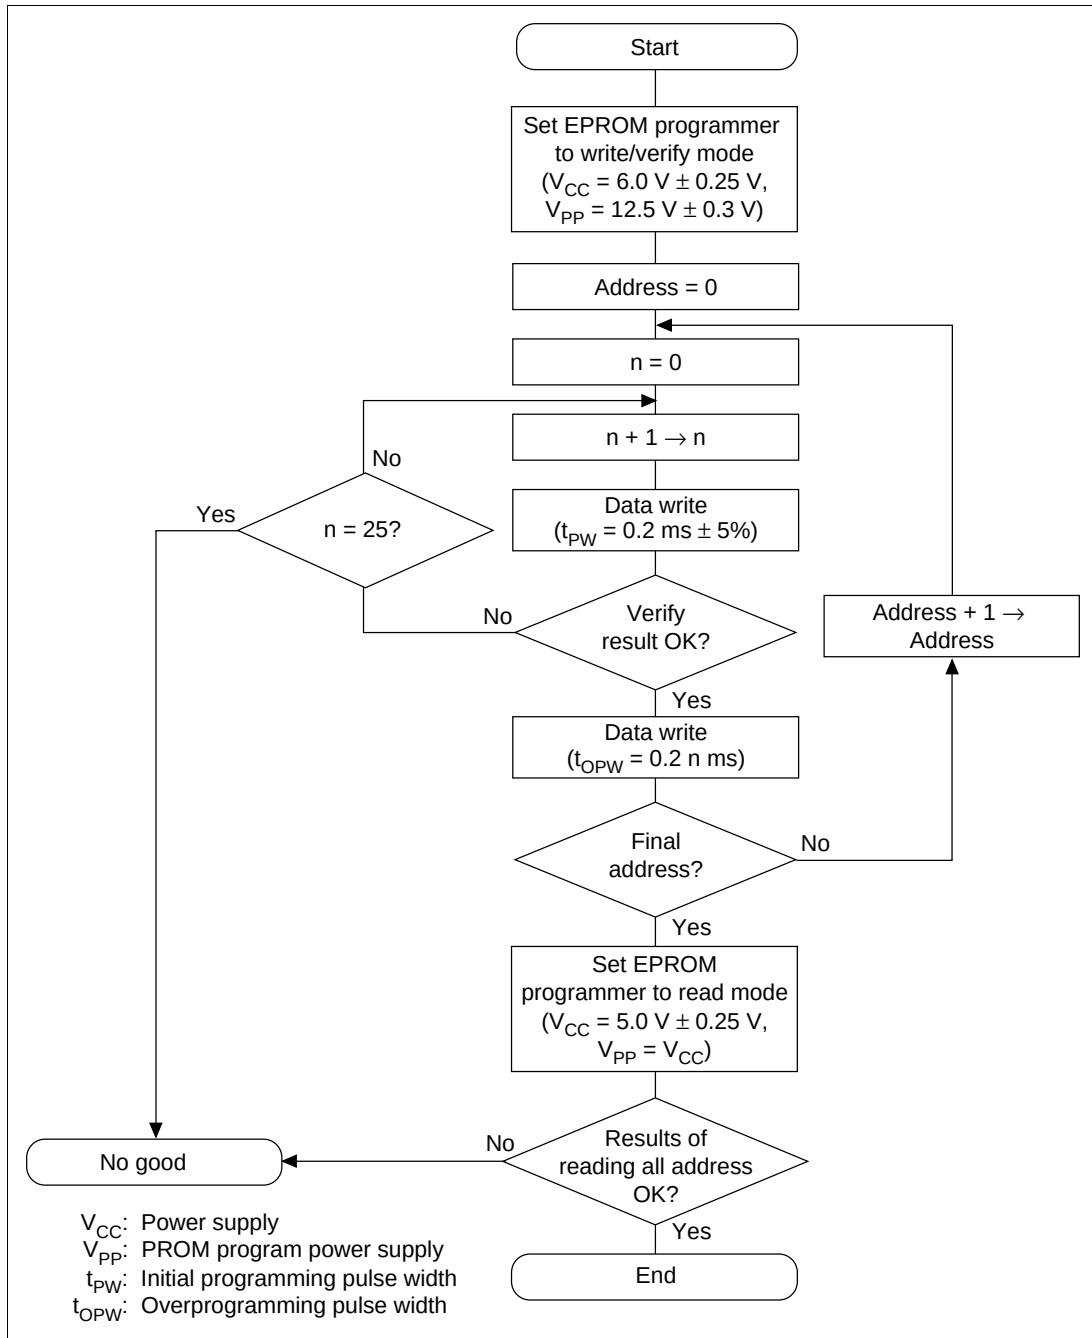

**Figure 17.4 Basic Flowchart of High-Speed, High-Reliability Programming**
**Write/Verify:** Write/verify can be accomplished by an efficient high-speed, high-reliability programming method. This method can write data quickly and accurately without placing voltage stress on the device. The basic flowchart for this high-speed, high-reliability programming method is shown in figure 17.4.